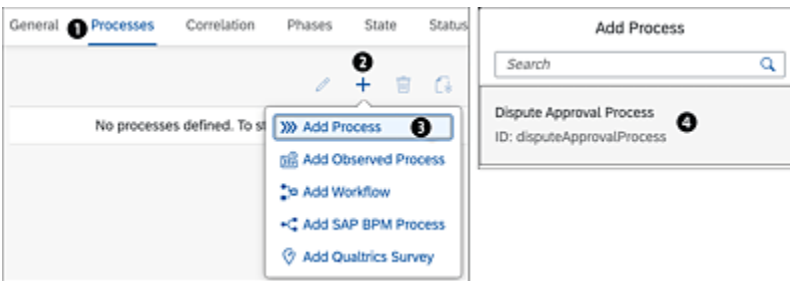

Figure 19.7 Adding the Process to the Visibility Scenario
Next, click on the **Processes** tab ❶, click on the + sign ❷, and then click on **Add Process** ❸, as shown in Figure 19.7. In the popup that appears ❹, select the **Dispute Approval Process**, the creation of which is discussed in the previous chapter of this book.